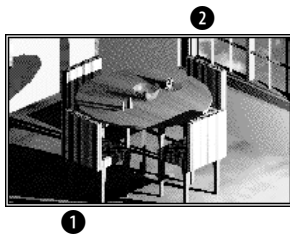

Figure 27-8: Clipping the raster image.
9. Choose Modify ⇨ Clip ⇨ Image. At the Select image to clip: prompt, select the image again, which is shown in Figure 27-8. Follow the prompts:
Specify first corner point: If OSNAP is on, turn it off. Pick ① in Figure 27-8.